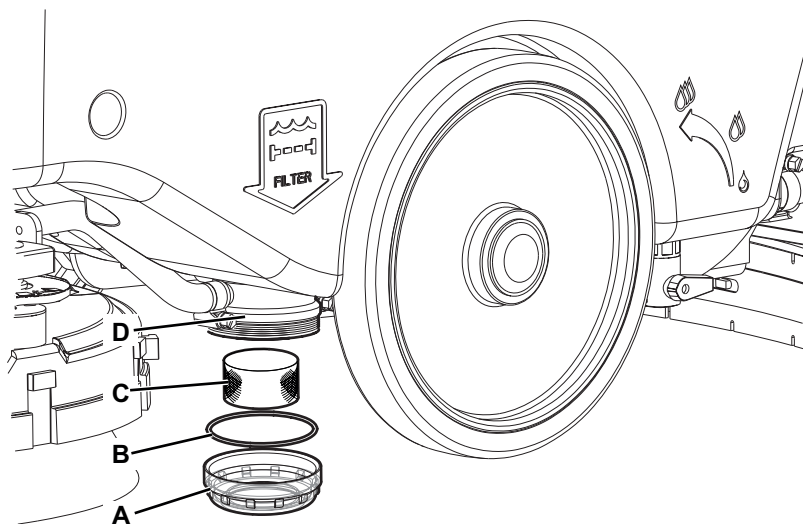

Figure 9
1. Empty the solution tank (15) as shown in the relevant paragraph.
3. Check that the switches (41 and 42) are turned to "0" and disconnect the battery connector (8).
4. Unscrew the transparent cover (A, Fig. 9), remove the gasket (B), then remove the filter strainer (C). Clean and install them on the support (D).